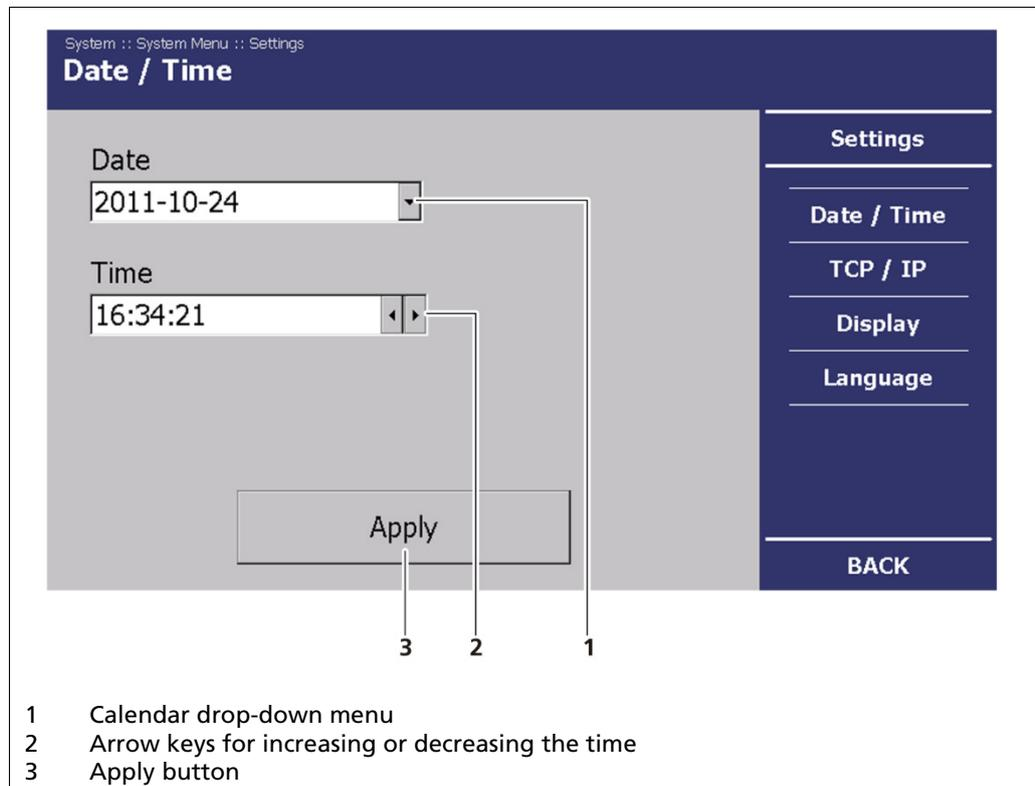

Fig. 24 System Menu, Settings - Date/Time
2. Click on the button drop-down menu (Fig. 24, Item 1), to change the date.